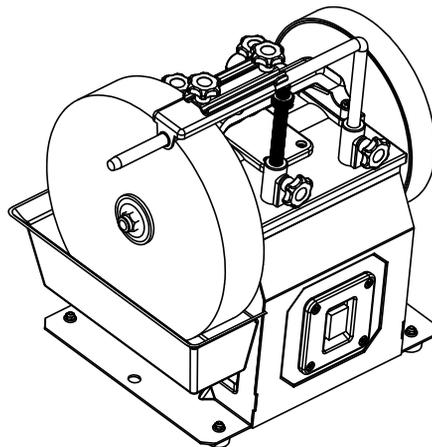

Figure 6
- Attach the universal support in the vertical mounts, as shown in Figure 6.